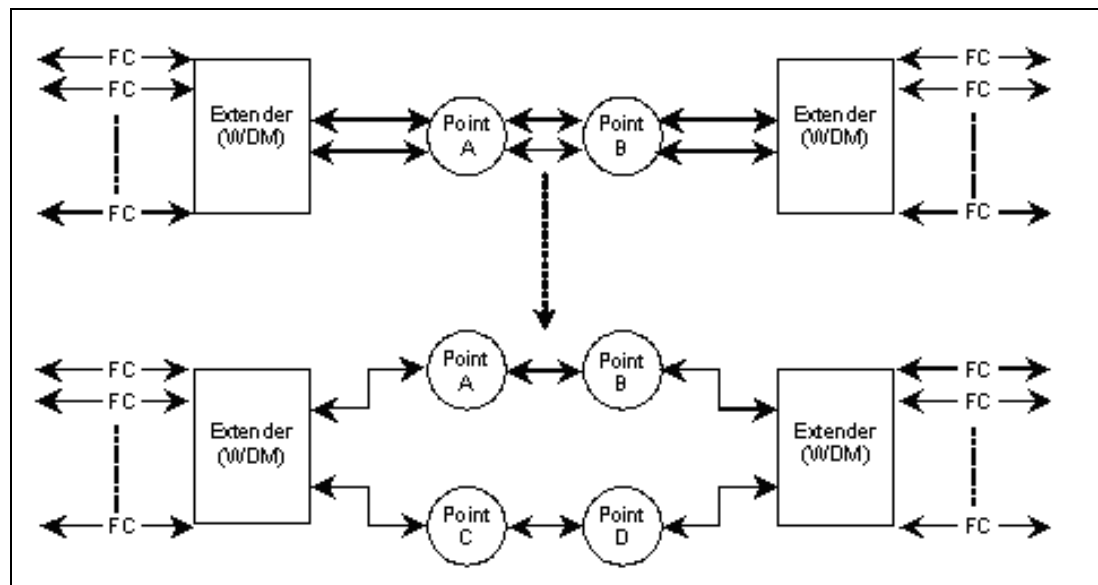

Figure F-3: Dark Fiber Failure
- If switching is executed during a dark fibre failure, data transfer must be moved to another path, as shown in Figure F-3.